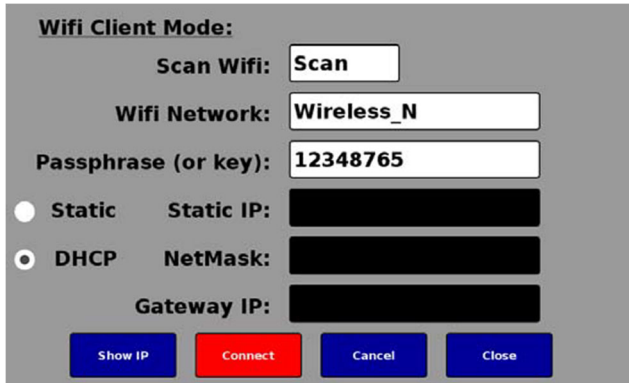

FIGURE 46
- 5) Once you have entered your password key, press the “Connect” button, the button will turn red and once connected to the WiFi the button will turn blue again and the unit should be connected (Figure 46).